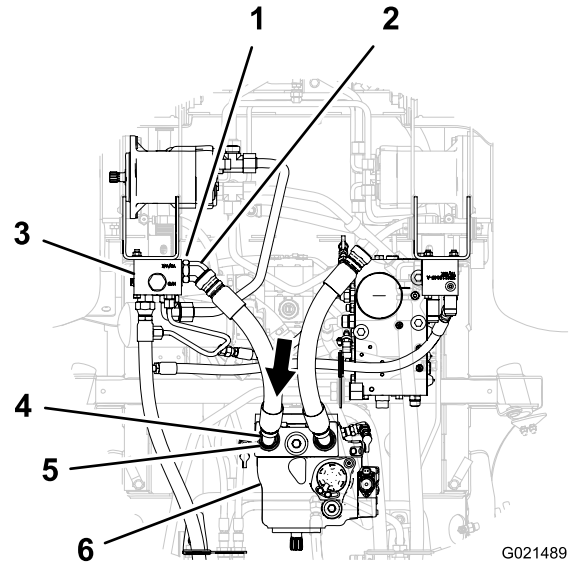

Figure 19
5. Align the 45° fitting of the pressure hose with the straight fitting in the hydraulic pump (Figure 19).
6. Thread the 45° fitting of the pressure hose onto the straight fitting in the hydraulic pump (Figure 19).
7. Tighten the jam nut of the 45° hydraulic fitting that in the flow-divider manifold (Figure 19).